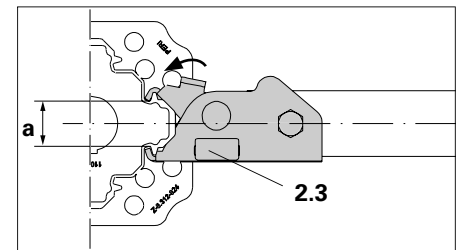

Fig. A2.05
2. Engage wedge connection in the profile grooves of the MP Tubes. (Fig. A2.05)
The frame is mounted to the prop. (Fig. A2.05)
- For a tight connection to the outer or inner tube with different jaw opening "a" two wedge courses are provided in the wedge itself (2.3). (Fig. A2.05 jaw opening "a")